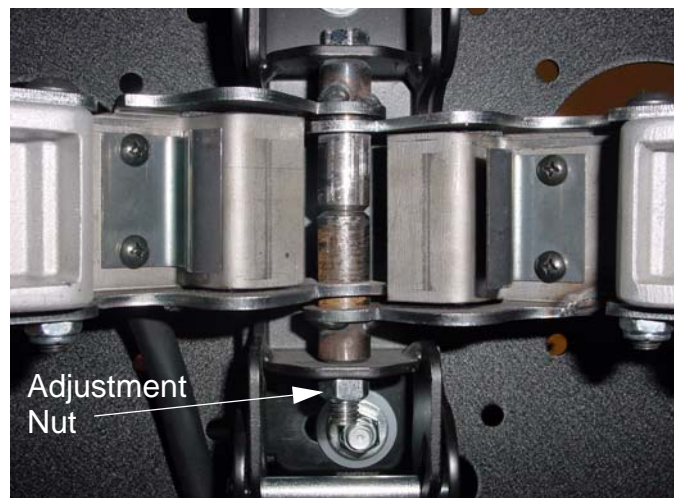

Figure 10. Lateral Tilt
1. Using a 9/16" wrench (not provided), slightly tighten or loosen lateral tilt tension adjustment nut (see Figure 10).